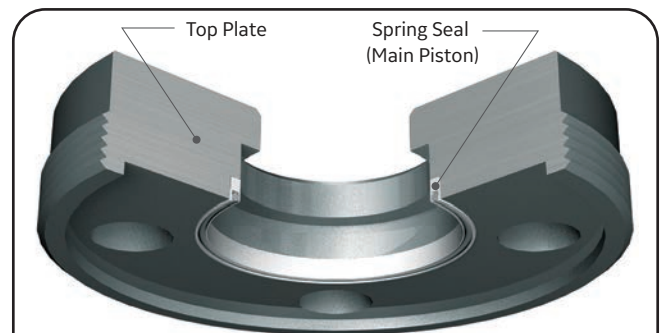

Figure 31: Top Plate (39PV07)
- a. Lubricate the Spring Seal (Main Piston) and Top Plate gland. Install the Spring Seal (Main Piston) into Top Plate. The spring should be oriented as shown in Figure 31 or 32.
- a. Lubricate the Spring Seal (Main Piston) and Top Plate gland. Install the Spring Seal (Main Piston) into Top Plate. The spring should be oriented as shown in Figure 31.